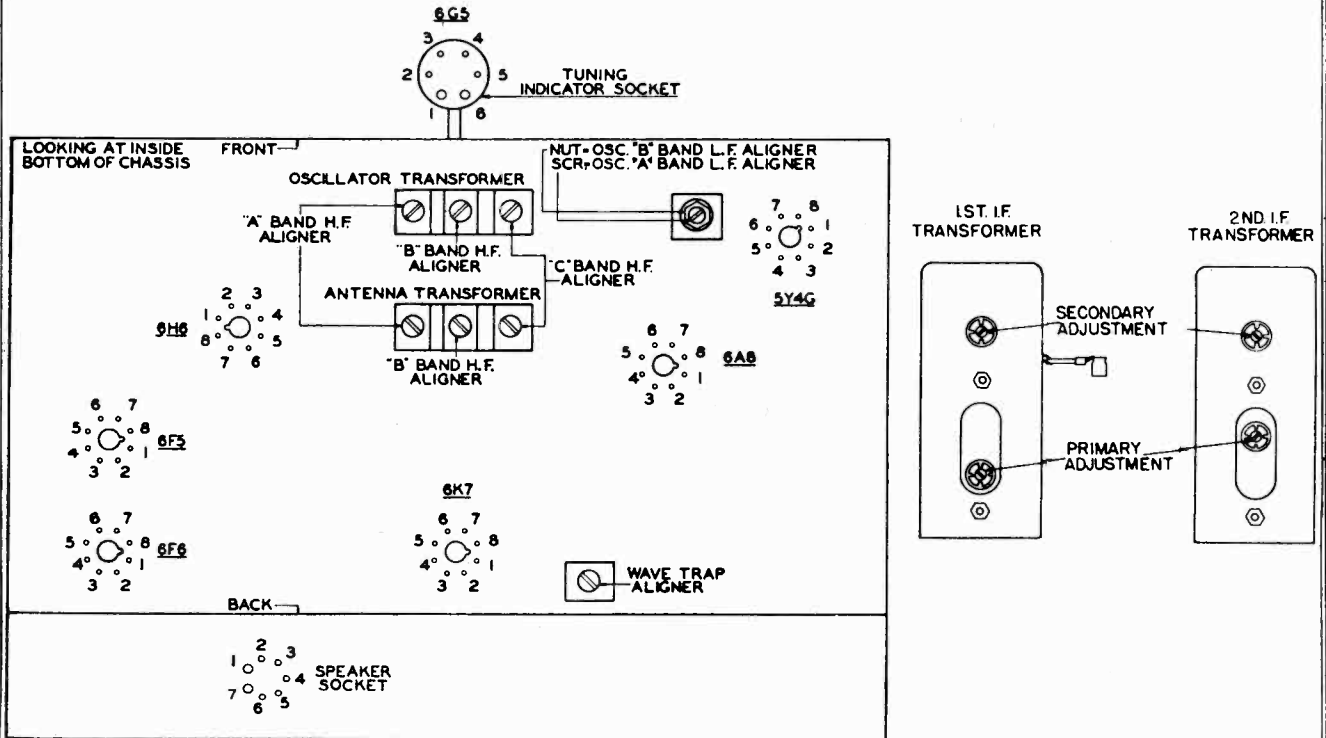

Fig. 1.—Terminal Layout for Voltage Measurement Chart and Location of the Various Aligning Capacitors.
3. Now, noting from Figure 1 the aligning adjustments for the first and second I. F. transformers, align the I. F. circuits in the following manner: